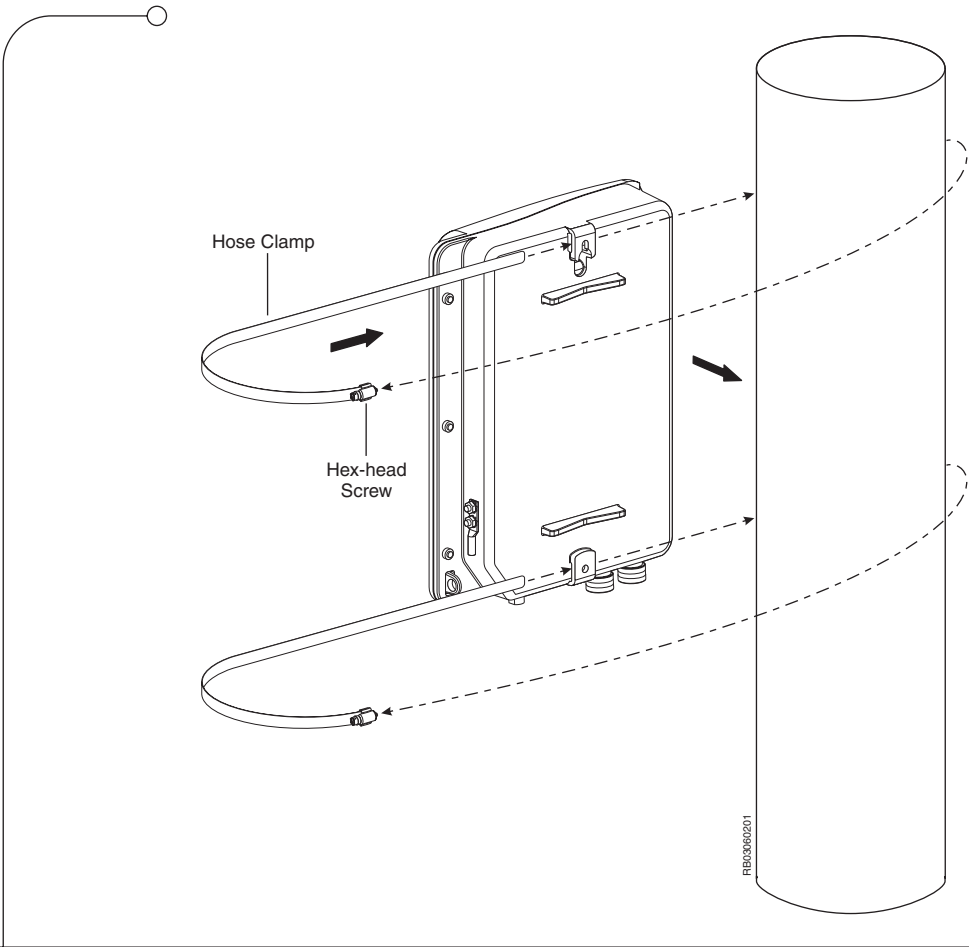

Figure 3.5 Mounting the STS on a Metal Pole
1. Insert the hose clamps through the slots at the rear of the STS, as shown in Figure 3.5 on page 33.